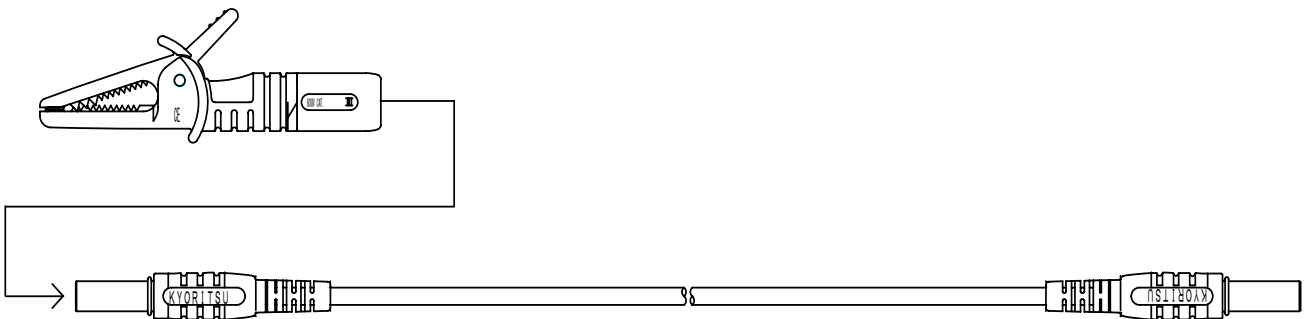
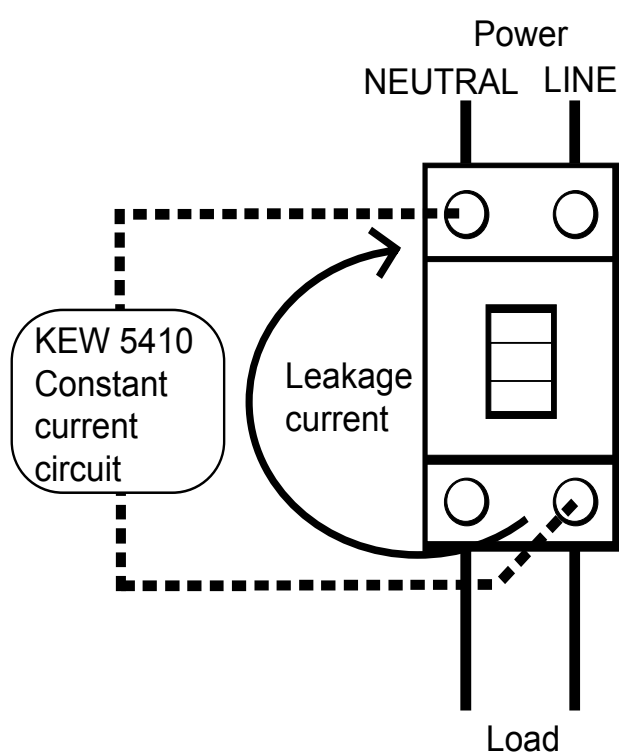
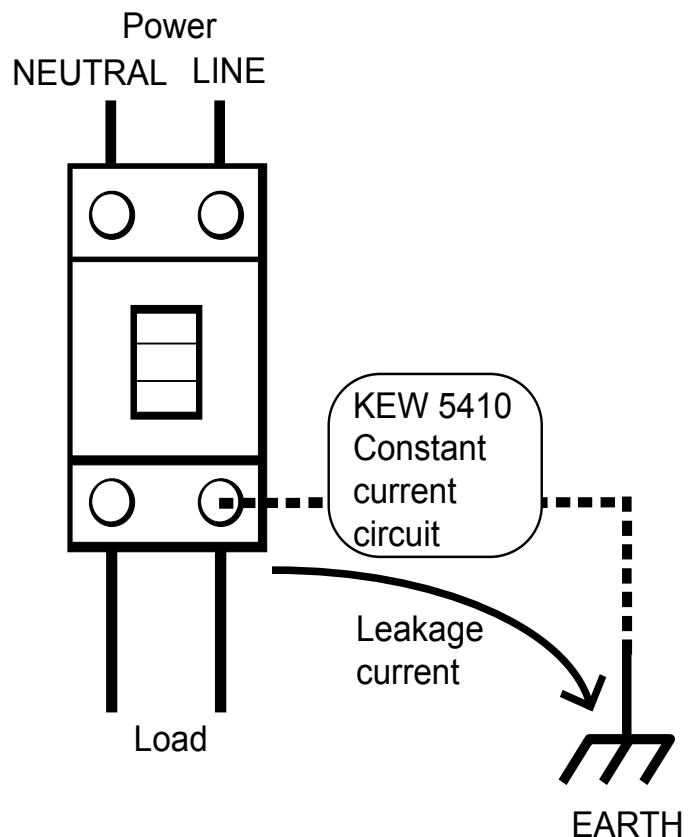

Fig.4
Fig.5
Fig.6
- (1) Unscrew and remove ① shown in Fig.4 and remove the Tip pin.
- (2) Install the Long pin and tighten ①.
This instrument has a constant current circuit, and drives leakage currents (I) between LINE-NEUTRAL as illustrated in Fig.5 to activate RCDs, moreover, can output and measure leakage currents flowing to the earth as shown in Fig.6.